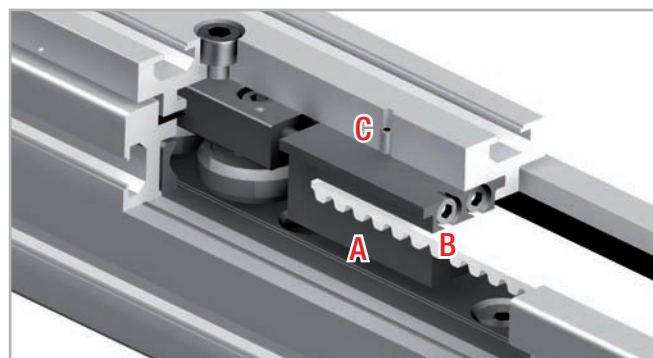

Fig. 21
1. Unscrew the safety screws C (on top of the slider plate) from the belt tensioning device A (see fig. 21).